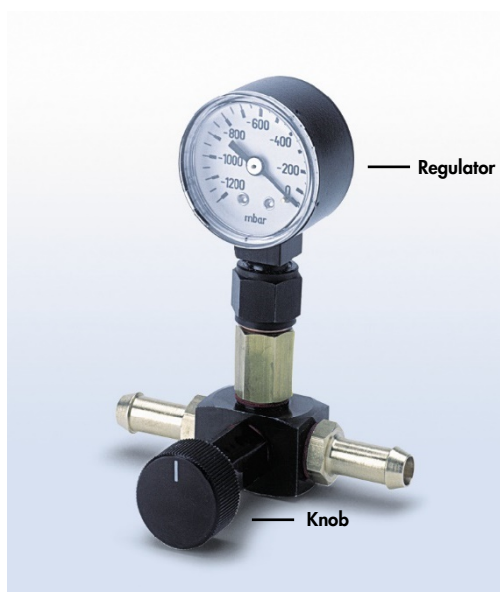

Figure 1. The Vacuum Regulator.
- The vacuum pressure is the pressure differential between the inside of the vacuum manifold and the atmosphere (standard atmospheric pressure 1013 millibar or 760 mm Hg) and can be measured using the QIAvac Connecting System or a vacuum regulator (Figure 1, next page). The vacuum protocol requires a vacuum pump capable of producing a vacuum of –800 to –900 mbar (e.g., QIAGEN's, Vacuum Pump). Higher vacuum pressures must be avoided. Use of vacuum pressures lower than recommended may reduce DNA yield and purity and increase the frequency of clogged membranes.
Switch off the vacuum between steps to ensure that a consistent, even vacuum is applied during processing. For faster vacuum release, a vacuum regulator should be used (Figure 1).